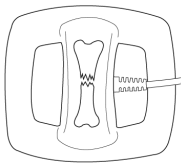

Figure 4
8. Center the treatment site on top of the softgood pad and secure the strap. (Figure 4)